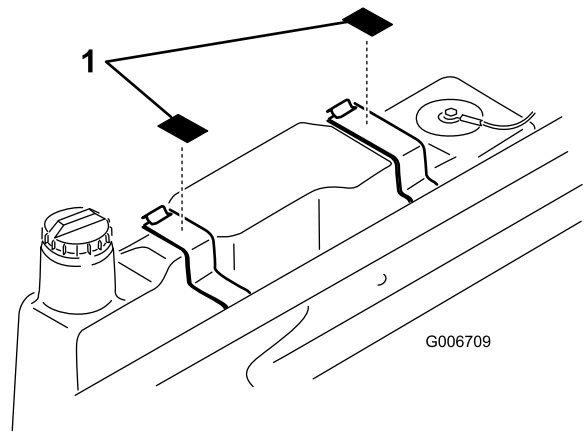

Figure 22
2. Affix a "No Step" decal to top of each fuel tank mounting strap, as shown in Figure 22.